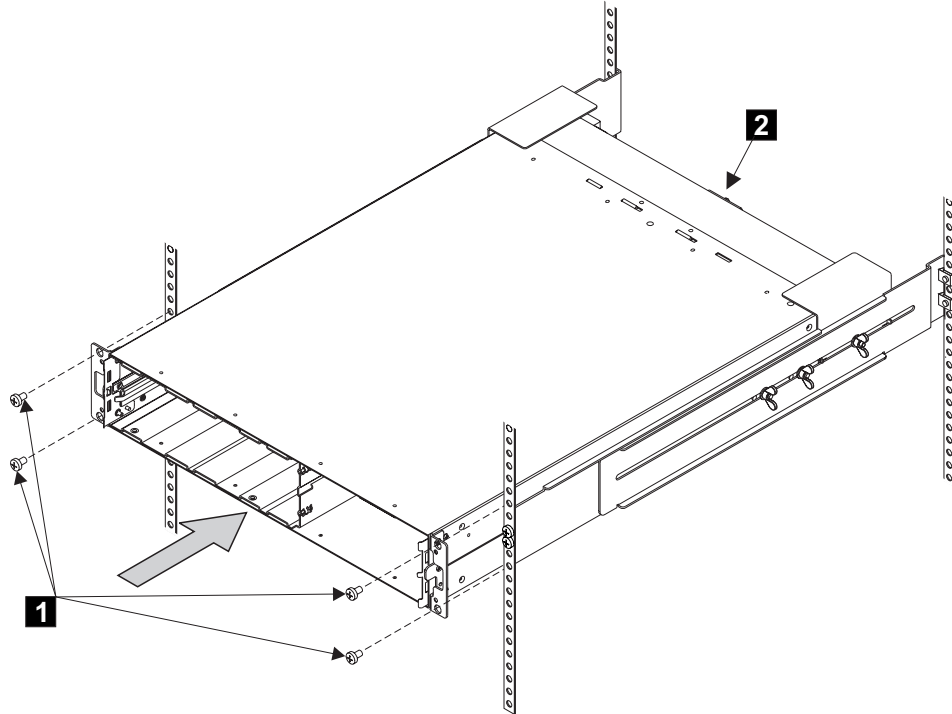

Figure 34. Installing the 2145 UPS into a rack
6. Install the front flathead screws **1** as seen in Figure 34 on page 71.